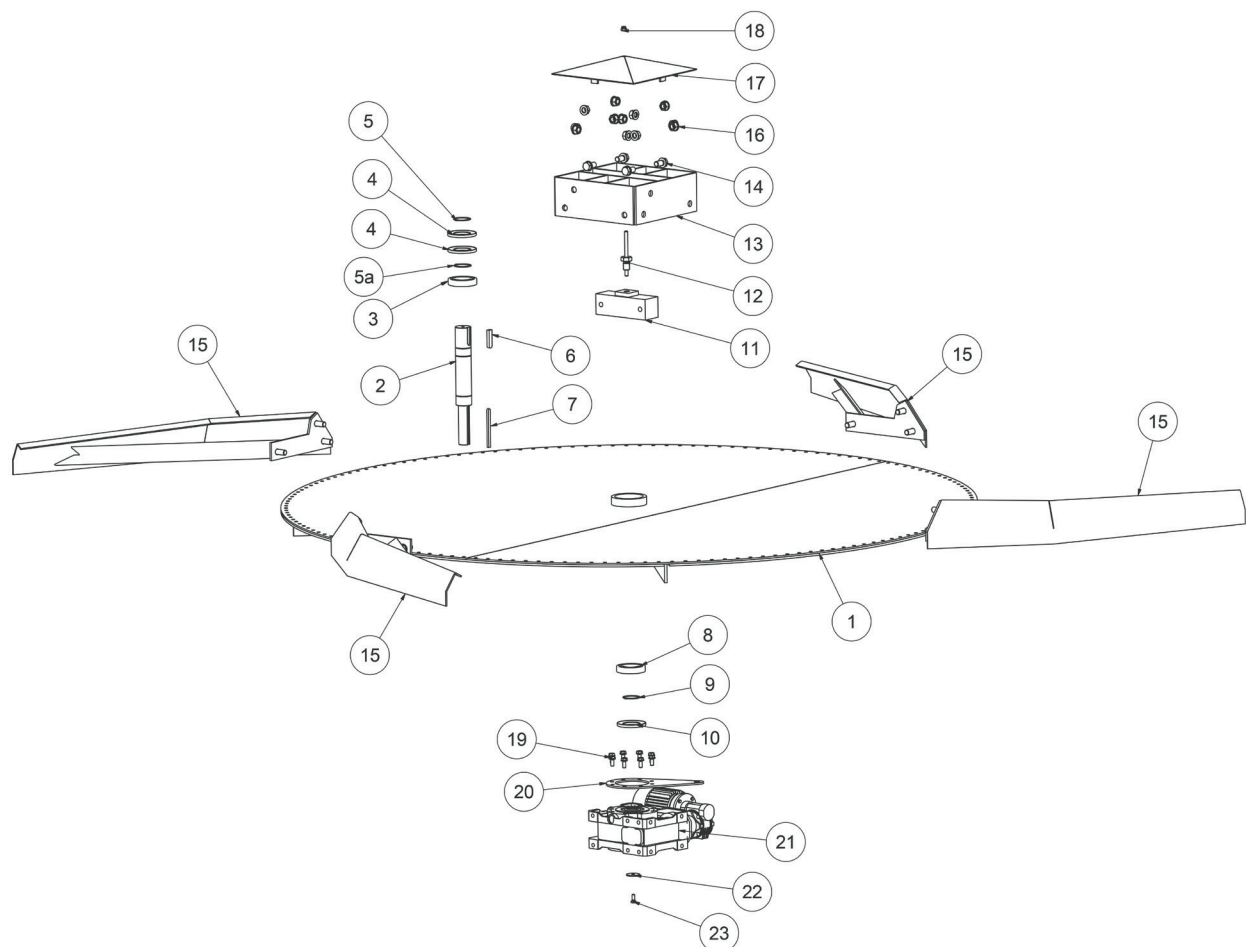

Fig. 03
See Fig. 03. Assemble the axle (2) with the bearing (3) and Seeger ring (5a). Fit the complete axle in the hub on the base plate (1). Then slide the scraper rings (4) onto the axle, ending with a Seeger ring (5). To secure the axle, fit the lower ball bearing (8) with its Seeger ring (9) and scraper ring (10).